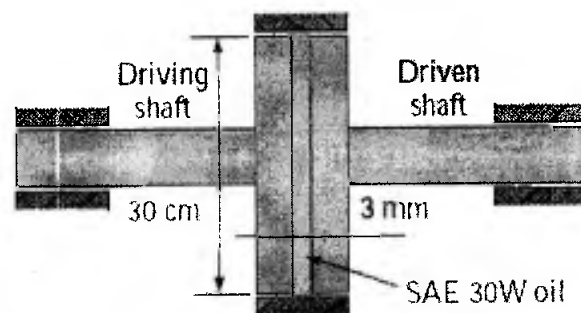

Fig. Q. 7(A)
7. A. The clutch system as shown in the figure Q. 7(A), is used to transmit torque [10] 2,3 3,4